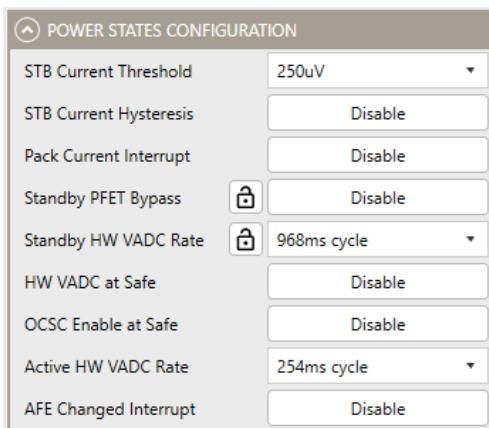

Figure 11: Power Status Configuration
3. Figure 11 shows the Power Status Configuration settings in the GUI.